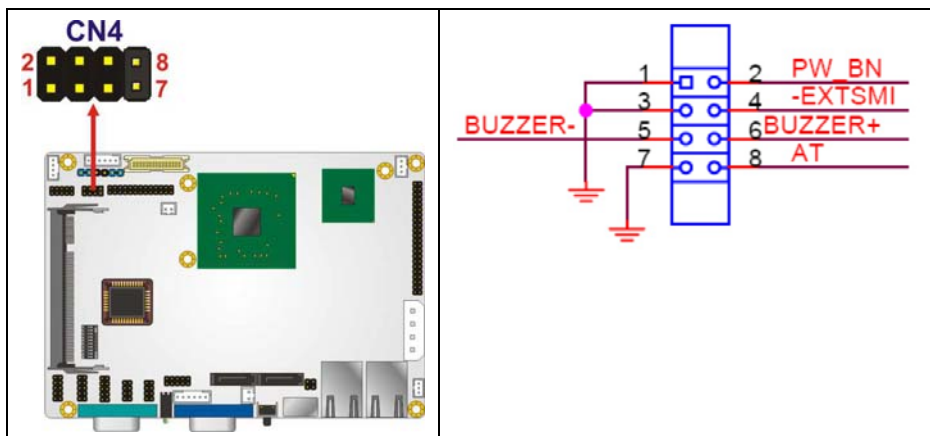

Figure 4-11: Front Panel Connector Location
- CN Location:** See Figure 4-11